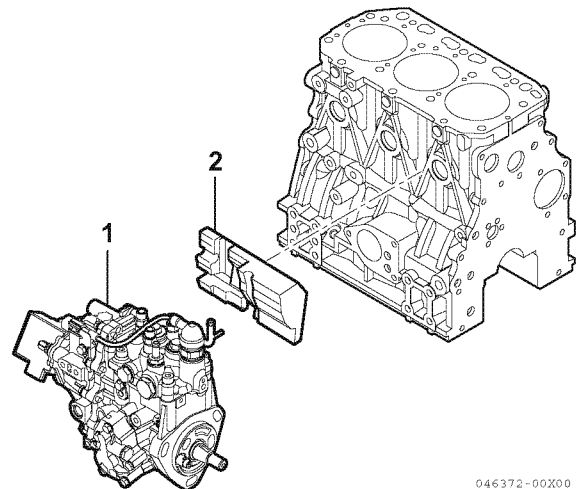

Figure 7-29
11. If equipped, verify the fuel injection pump insulator (**Figure 7-29, (2)**) is not damaged. Reinstall the insulator and intake manifold if previously removed.